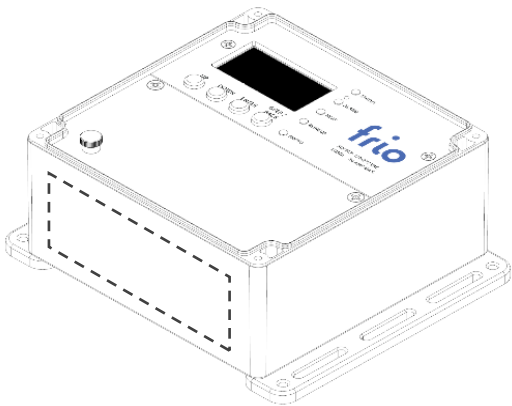

Figure 1: Frio S1 controller showing the bottom side where to drill wiring holes.
2. Remove the white wiring cover and replace the clear cover to ensure you do not drill into any components. Drill holes on the bottom face of the controller inside of the dashed line shown in Figure 1 and remove all plastic shavings. Do not drill holes within 0.5" of the edge of the enclosure. Mount your conduit and cable fittings.